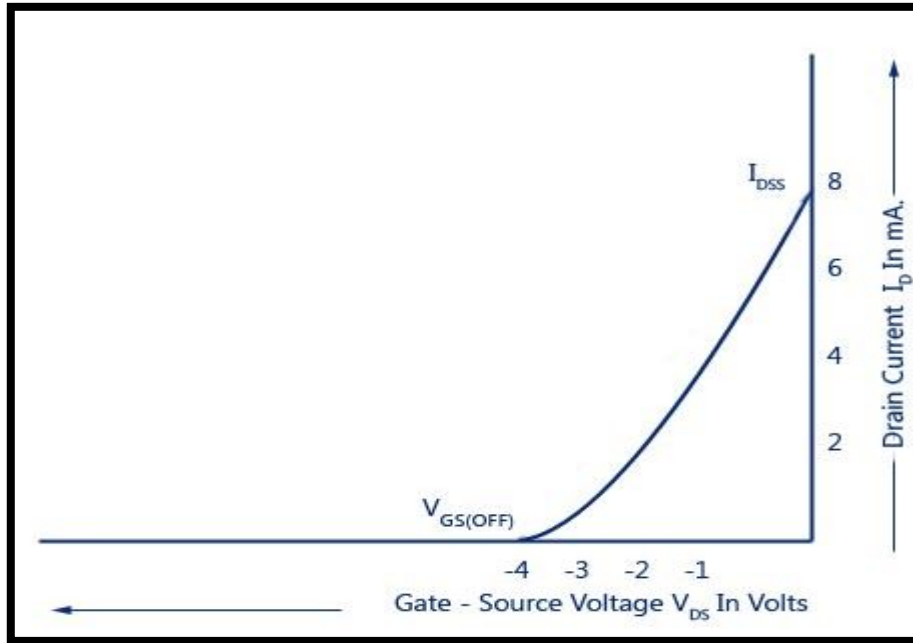

Figure 2: The Transfer Characteristics of the JFET
The relation between  $I_D$  and  $V_{GS}$  is also referred as the transfer characteristic of the JFET and is presented in Fig.2. This curve is obtained by varying the negative voltage  $V_{GS}$  between  $V_P$  and 0 and measuring  $I_D$  for a given value of the drain to source voltage ( $V_{DS}$ ). Equation (1) can approximate this curve to an acceptable level.